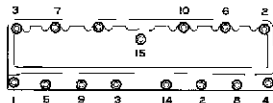

Fig 3-2 Cylinder Head X4909
- 25 Remove the valve rocker shaft oil delivery union from the oil delivery pipe. Loosen and remove the cylinder head bolts in the order illustrated in figure 3-2 to prevent warpage. Do not loosen and remove the cylinder head bolts at one time